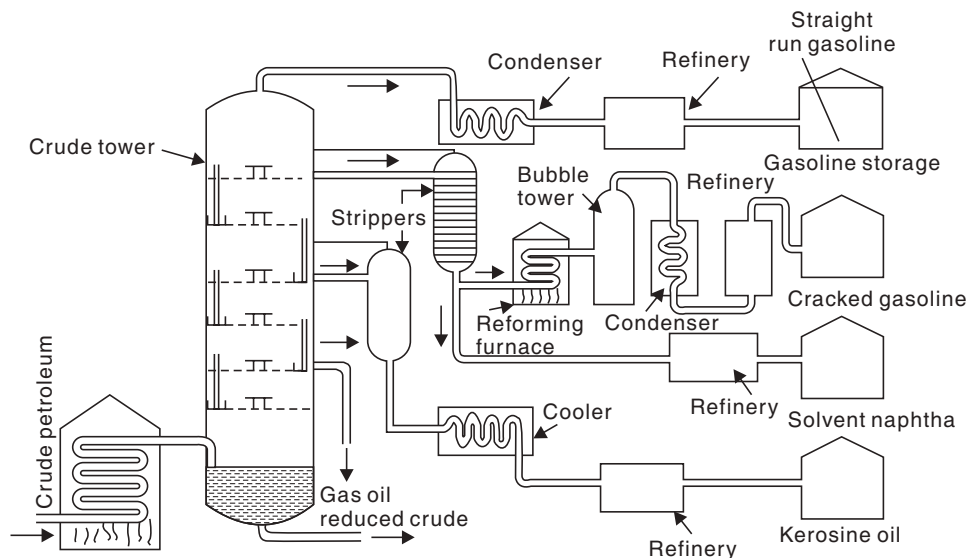

Fig. 18.6 Petroleum distillation.
3. **Petroleum distillation.** The crude oil is subjected to distillation to about 400°C temperature in an iron retort whereby all volatile components except the solid residue are distilled out. These are separated in a fractionating column consisting of a tall tower where the higher boiling fractions condense first. This distillation is a continuous process and the following fractions are obtained (Fig. 18.6) (Table 18.3).